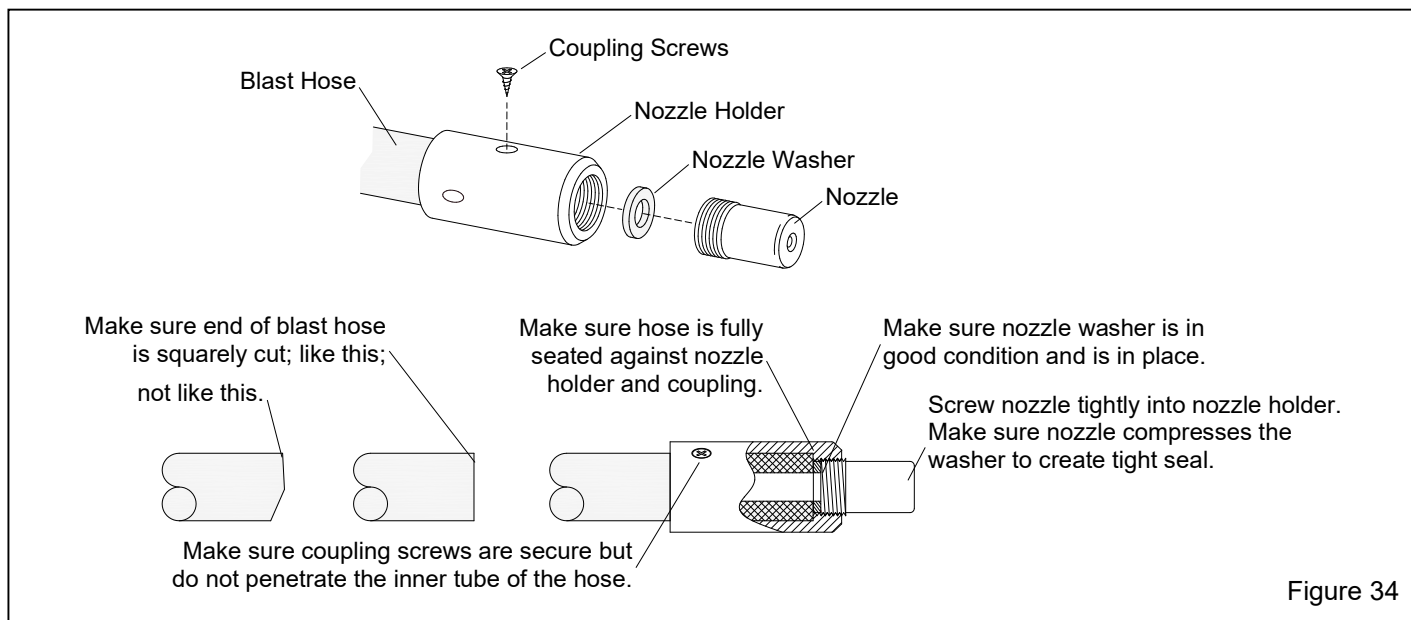

Figure 34
7.3 Blast Hose and Nozzle – Figure 34
7.3.2 When replacing blast hose, make sure the hose is square cut and that it is fully inserted into the nozzle holder and coupling until it sets tightly against the shoulder in the holder and coupling, as shown in Figure 34. Make sure correctly-sized screws are used to secure the nozzle holder and blast-hose coupling. Screws should not penetrate through to the inside of the blast hose.